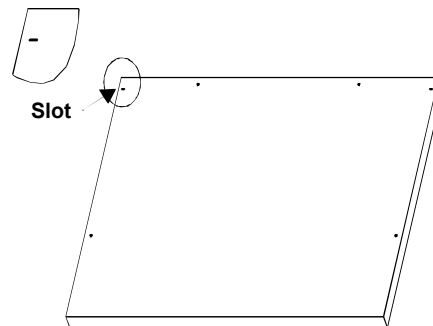

Figure 1. Bottom Panel
3. Place the Bottom Panel (#1) on a clean, smooth surface. See Figure 1.